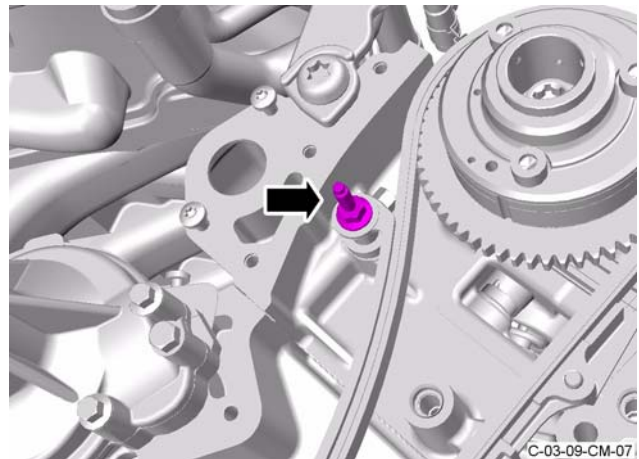

Figure 20
2. Install the special bolt that attaches the tensioner arm to the engine and torque the bolt to 11 Nm (refer to Figure 20).